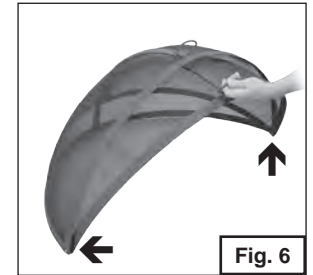

Fig. 6
Insert Hinge Bolts (C) through hinge holes and lift small screen section (Screen B) and fasten bolts with nuts (Fig. 6). **Note: there will be space between the two screen halves to allow the sections to slide past each other.** Securely fasten Nuts with wrench (Fig. 7).